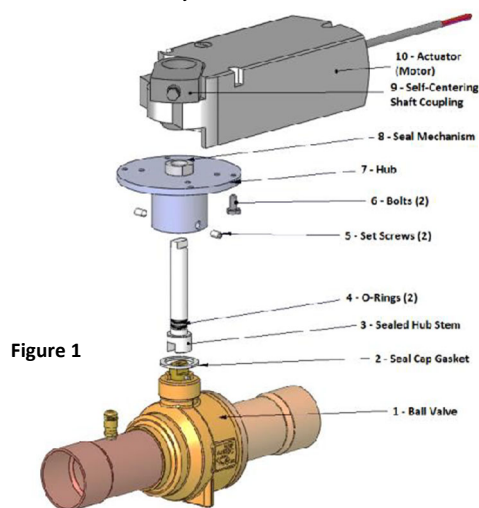

Figure 1
1. Get the Actuator (10), Self-Centering Shaft Coupling (9) and Locking Clip required for installation.
2. Assemble the Shaft Coupling (9) onto the Actuator as shown in Figures 1 & 2. Depress the manual override button on top of the Actuator and manually cycle the Shaft Coupling back-and-forth through the full 90° cycle to confirm that each actuator operates within the full range between the left and right raised stops. Reposition if necessary.